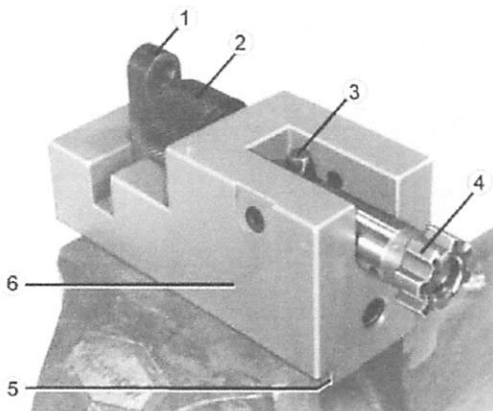

Fig. 48 Place bolt head into assembly tool
- ⇒ Clamp ejector assembly tool (Fig. 48/6) on its recesses (Fig. 48/5).
- ⇒ Swivel locking lever (Fig. 48/1) and remove pressure piece (Fig. 48/2) towards the rear.
- ⇒ Place bolt head (Fig. 48/4) onto bolt (Fig. 48/3) of assembly tool as shown in Figure 48.
- ⇒ Push locking lever upwards (Fig. 48).